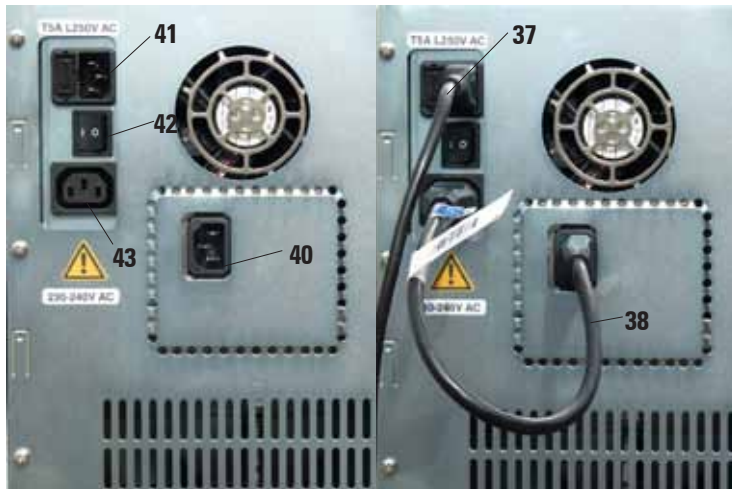

Fig. 4
The instrument must be set up so that the power switch on the rear side of the instrument (Fig. 4, 42) is easily accessible at any time.
- To switch on the instrument, press in the ON/OFF switch on the rear panel of the instrument (Item 42 in Fig. 4) switching on (**ON**).